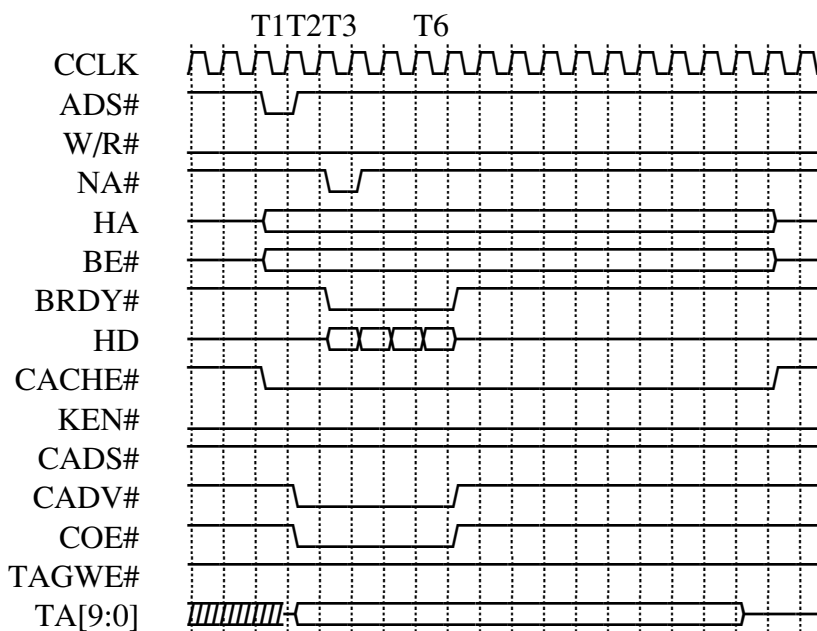
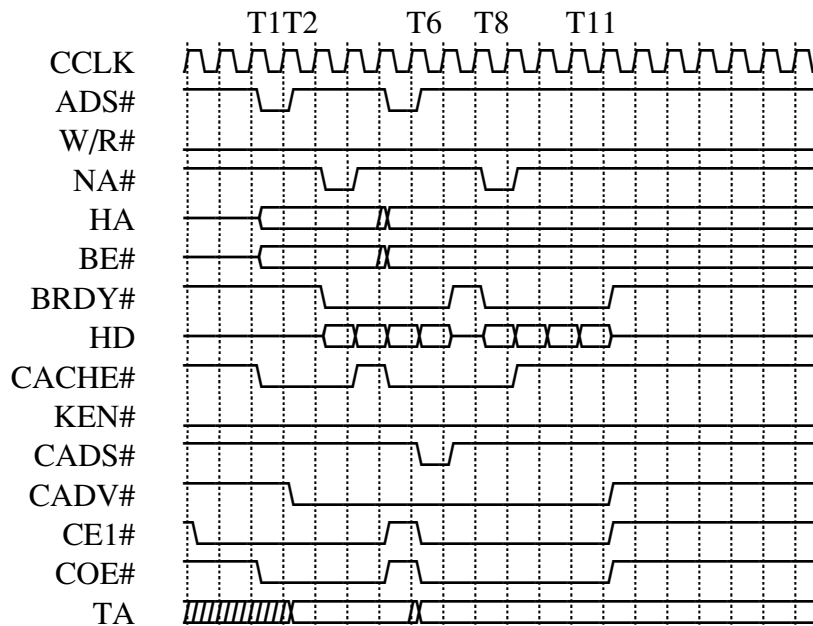
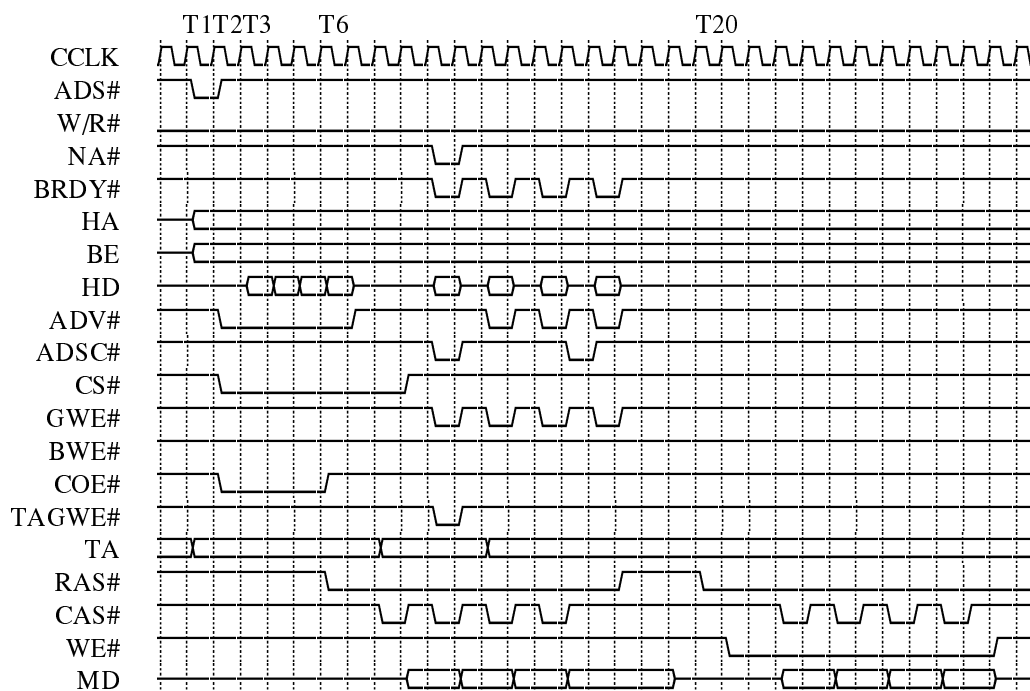

Figure 3-1. Read Hit Cycle of 3-1-1-1 (1 Bank)
Figure 3-3. Read Hit Cycle of 3-1-1-1 2-1-1-1 (2 Banks)
Figure 3-4. Read Miss and L2 Cache Write Back
The timing diagrams for an L2 burst read cycle of 3-1-1-1 and an L2 burst write cycle of 3-1-1-1 with one PBSRAM chip (one bank) are shown in Figures 3-1 and 3-2. A timing diagram for an L2 burst read cycle of 3-1-1-1 2-1-1-1 with two PBSRAM chips (two banks) is shown in Figures 3-3. Figure 3-4 represents the timing diagram of CPU Read Miss and Dirty L2 Cache Write Back.
The timing analyses for three different cache hit cycles (see Figures 3-1, 3-2 and 3-3) are listed below:
- Till T6, the L2 burst read and write cycle of 3-1-1-1 for the one-bank case is complete (see figures 3-1 and 3-2). For the two-bank case, the L2 burst read cycle of 3-1-1-1 2-1-1-1 is complete at T11 (see figure 3-3).
The timing analyses for an L2 burst read miss cycle followed by a dirty L2 cache write back (see Figures 3-4) are listed below: